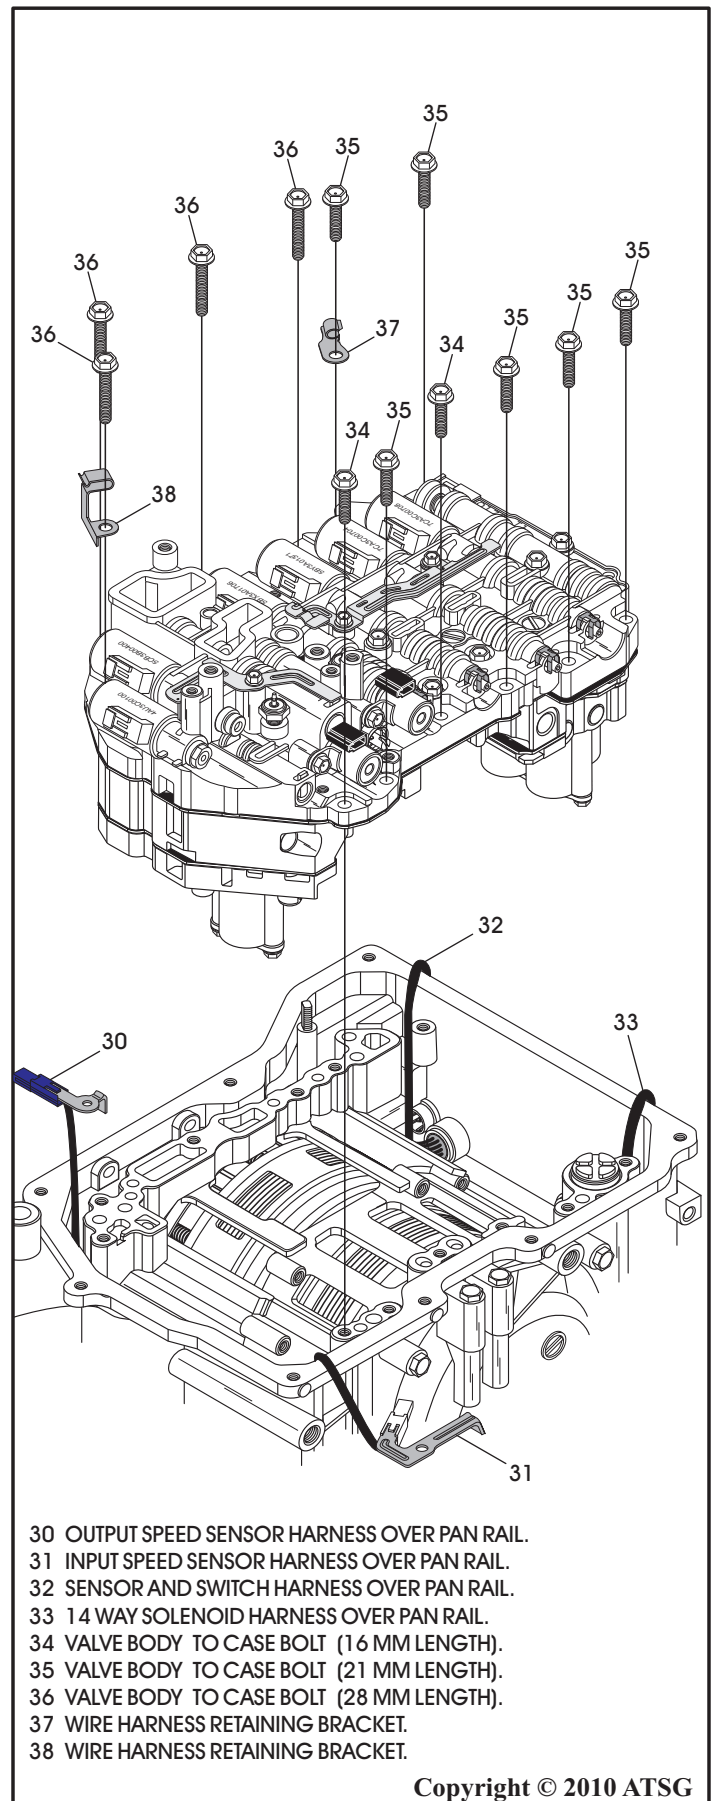

Figure 60
3. Remove the wire harness retaining brackets, as shown in Figure 60.
24. Remove the valve body assembly, as shown in Figure 60.